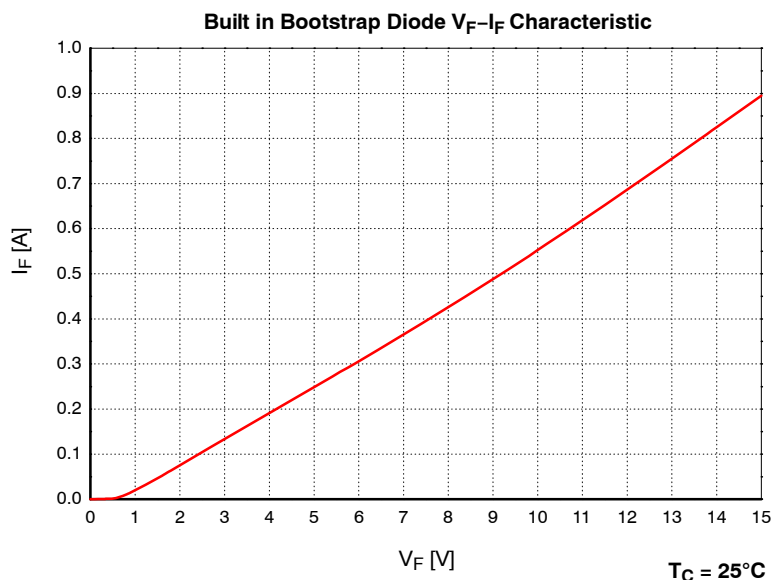

Figure 2. Built in Bootstrap Diode Characteristics (Typical)
- Built in bootstrap diode includes around $15\ \Omega$ resistance characteristic. Please refer to Figure 2.